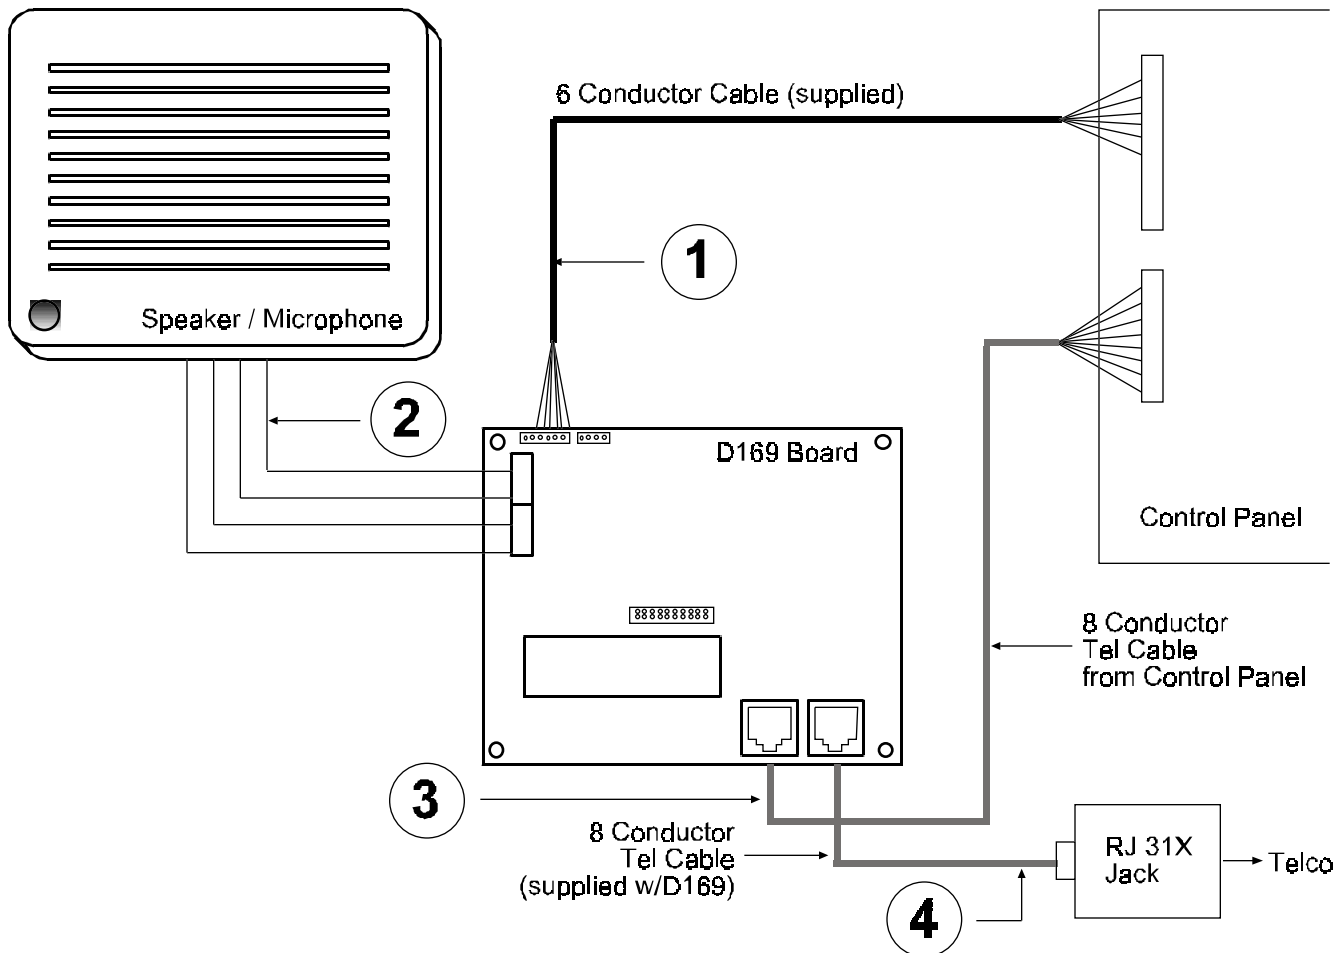

Figure 2: The four wiring steps
2. the four wiring steps as shown in Figure 2 (complete wiring information begins on page 7)